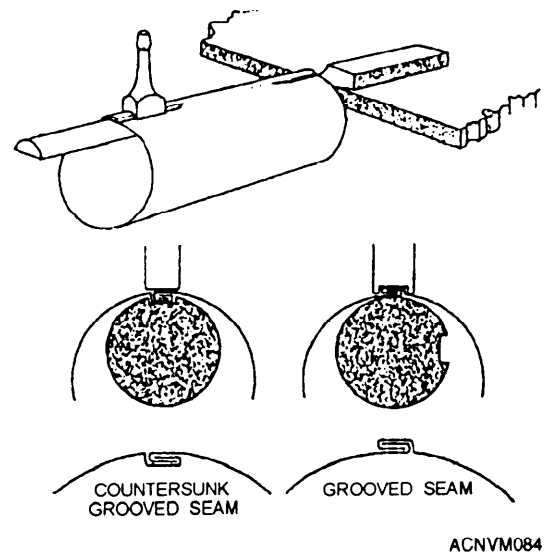

Figure 12-84.—Completing the grooved seam with a hand mandrel.
4. Hook the seam together and slip the cylinder over a hollow mandrel stake, as shown in figure 12-84.